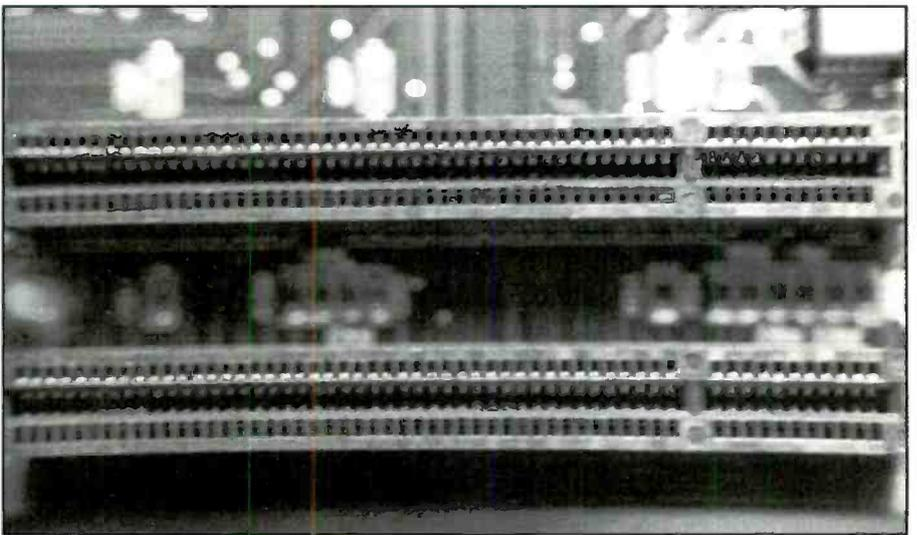

Figure 2. The Micro Channel Architecture of the IBM computers features this new style edge connector with 0.05-inch pin spacing.
**Figure 2.** When the Worldwide Type Designation System (WTDS) was introduced in April of 1982, CRTs from all over the world were identified with the same six groups of symbols. One of the changes for U.S. manufacturers is that the diagonal size was now expressed in millimeters.
called MCA, or Micro Channel Architecture. It used a new style edge card connector with a 0.05-inch pin spacing (Figure 2). The design specification of MCA allowed bus speeds as high as 33MHz.